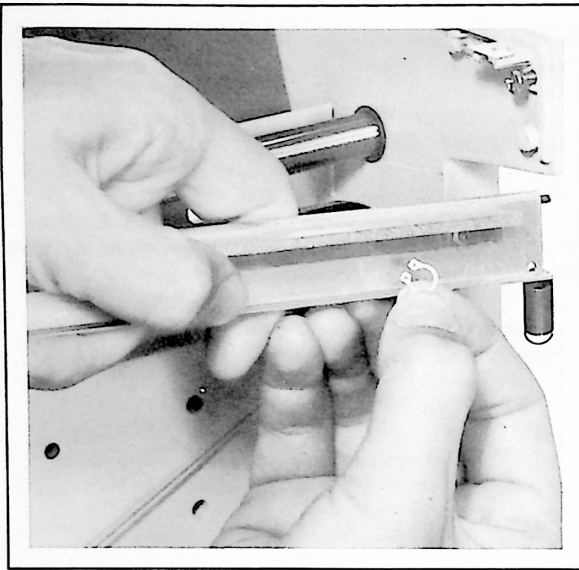

Figure 5-4. Pen Lift Bar Removal
- b. Unhook spring at right side of pen lift bar. Snap off retaining ring at right end of pen lift bar. Lift bar up and out. See Figure 5-4.